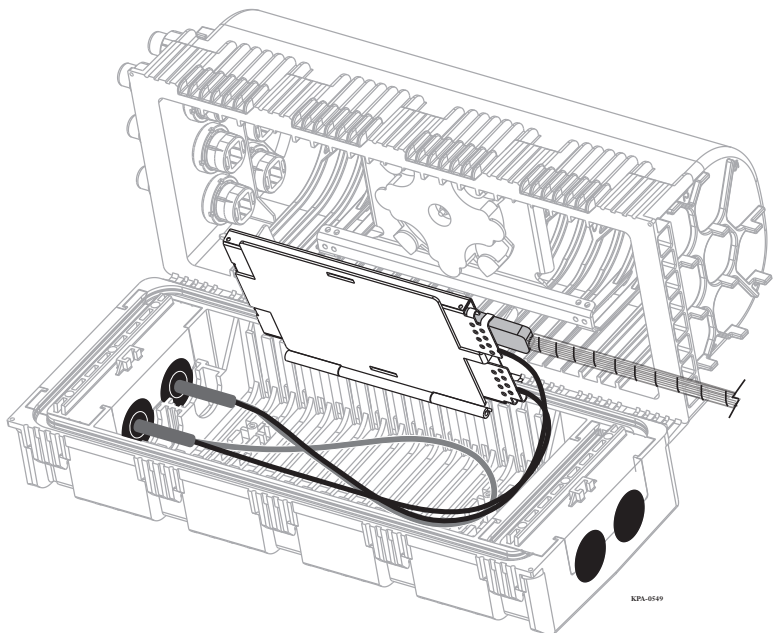

Figure 42
- Step 2:** Place the splice tray in the stacker and rotate the stacker upwards out of the way (Figure 42).